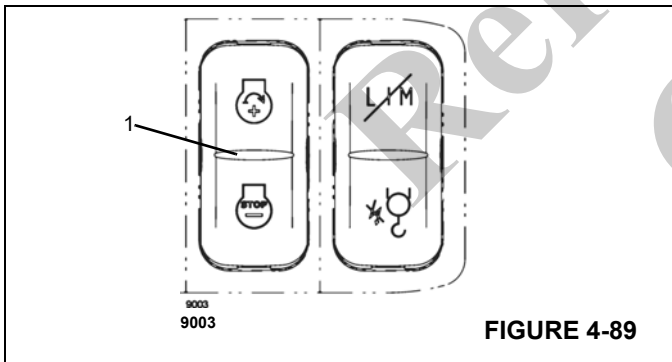

FIGURE 4-89
You can set the desired engine speed (idling speed) with button (1), (Figure 4-89), refer to *Engine Idle Increment/Decrement Switch*, page 3-7.